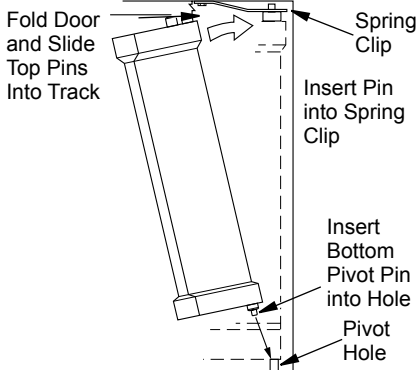

Figure 22 - Installing Bi-Fold Doors
1. With bi-fold doors completely folded, insert bottom pivot pin into pivot hole located near bottom corner of front face opening and swing door to vertical position making sure top pins slide into door track. Door is installed when top door pin snaps into spring clip (see Figure 22).